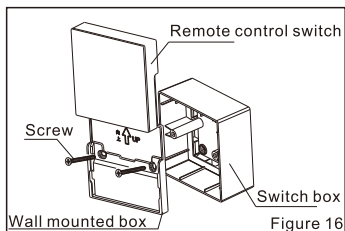

Figure 16
①Installation method 1 : Use screws to fix the wall mount box of the remote control to the switch box (Figure 16) ,